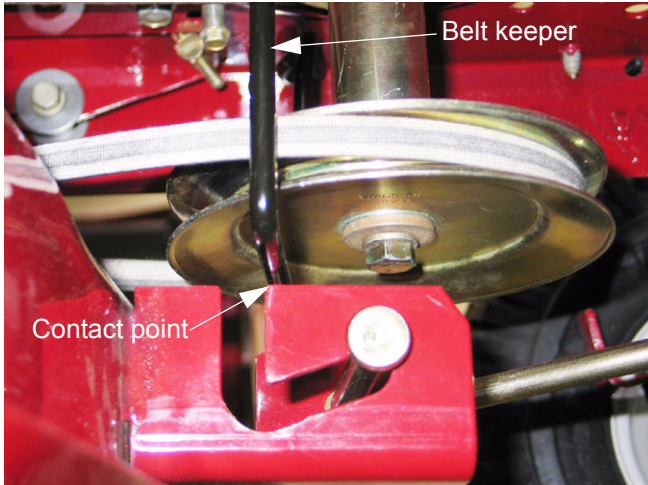

Figure 2.3
- 2.3. Remove the crankshaft pulley belt keeper using a 1/2" wrench. See Figure 2.3.